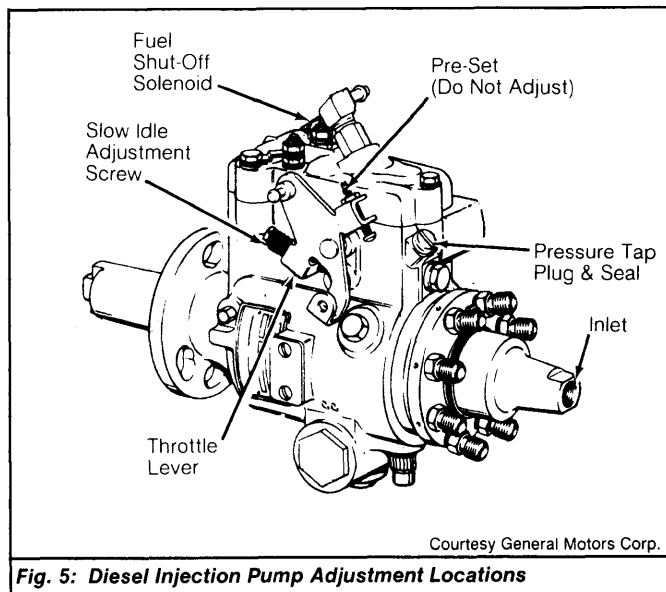

Fig. 5: Diesel Injection Pump Adjustment Locations
- 3) Adjust slow idle screw on injection pump to obtain specified idle speed RPM. See Fig. 5.